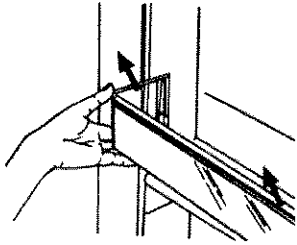

Figure 10
- Move slide-in-style shelf by grasping each side of shelf retainer. Pull shelf straight up and out. See Figure 10.